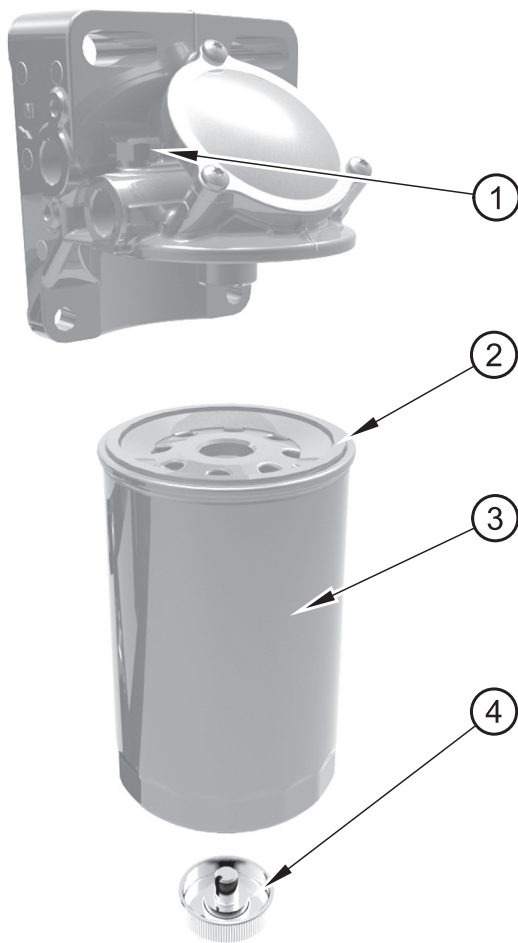

Figure 26
3. Place a soft cloth over the vent screw (figure 26 item 1) on the filter. Open the vent screw in order to relieve the pressure that may be within the fuel system.
4. Open the drain valve (item 4). Allow the fluid to drain into the catching tray. Tighten the drain valve by hand pressure only. Then, tighten the vent screw securely.